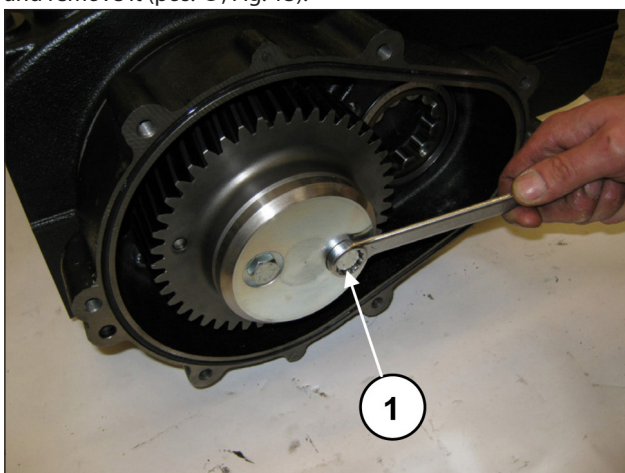
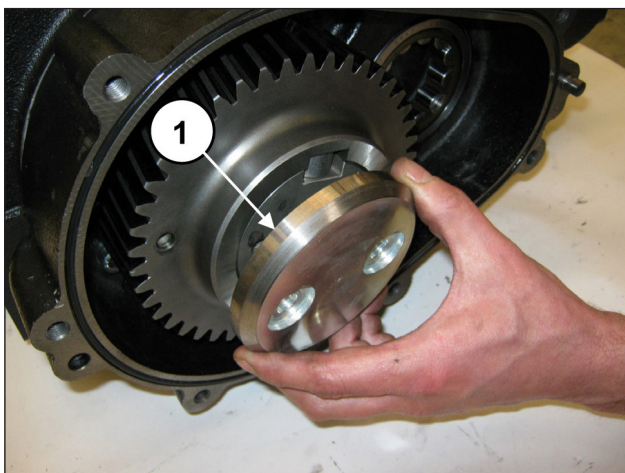

Fig. 12
Fig. 13
Unscrew the screws holding in the ring gear (pos. ①, Fig. 12) and remove it (pos. ①, Fig. 13).